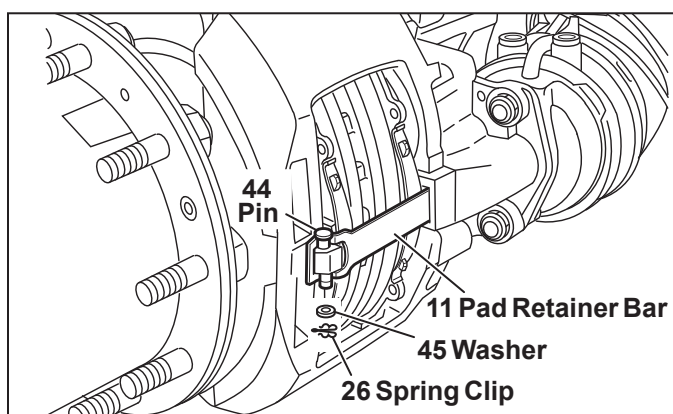

FIGURE 23 - RETAINER BAR REMOVAL
See *Figure 23*. While pressing down against the pad retaining bar (11), remove and retain the clip (26), washer (45) and pin (44). Remove the pad retainer bar (11). Bendix recommends that these items should be replaced with new (See *available kits and parts, Section 5.0*).